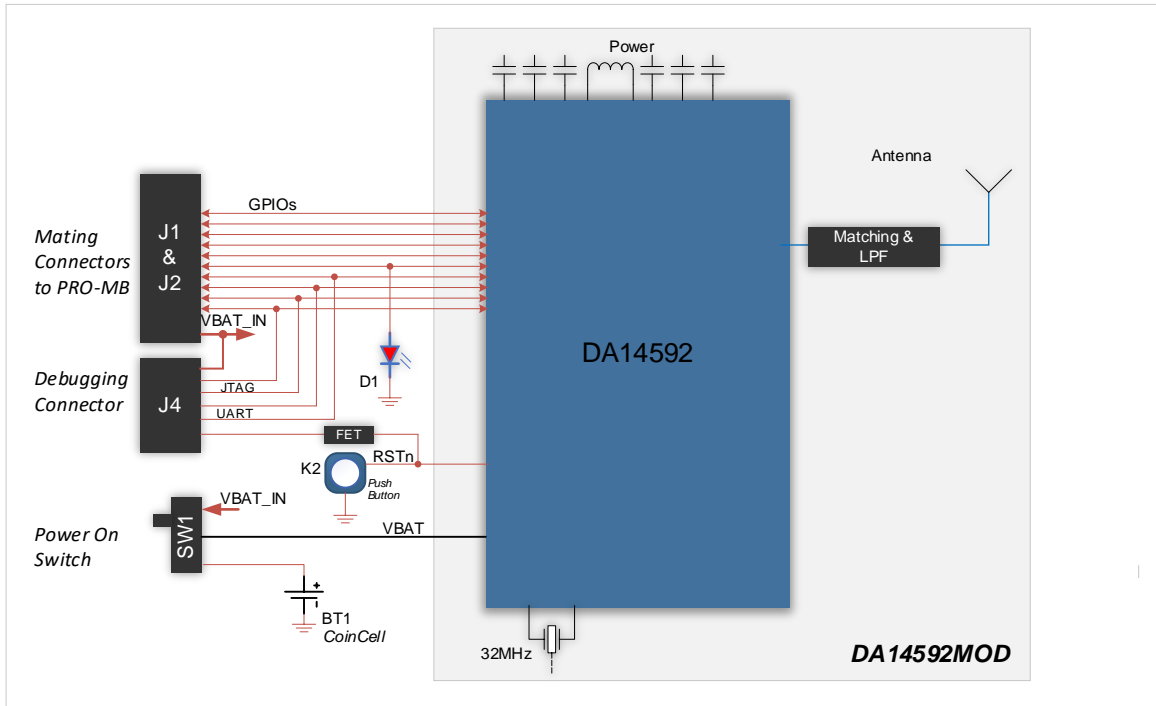
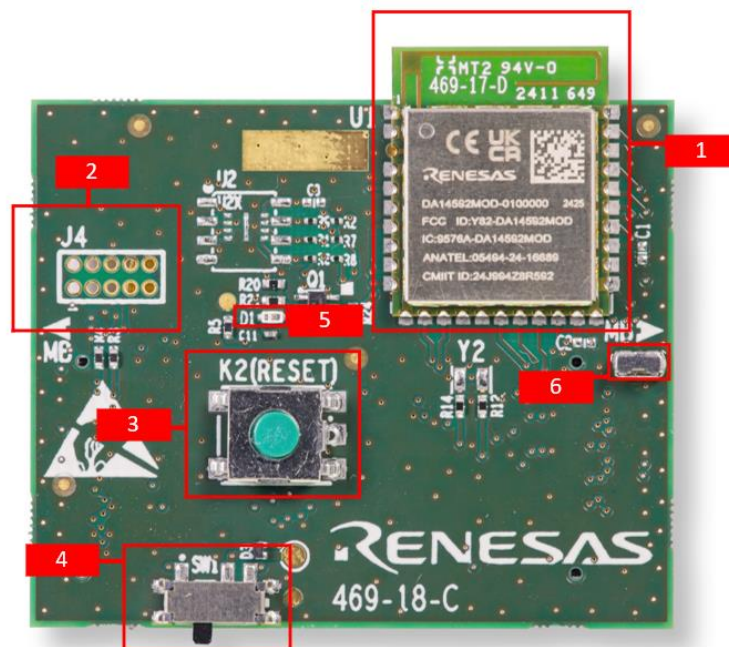
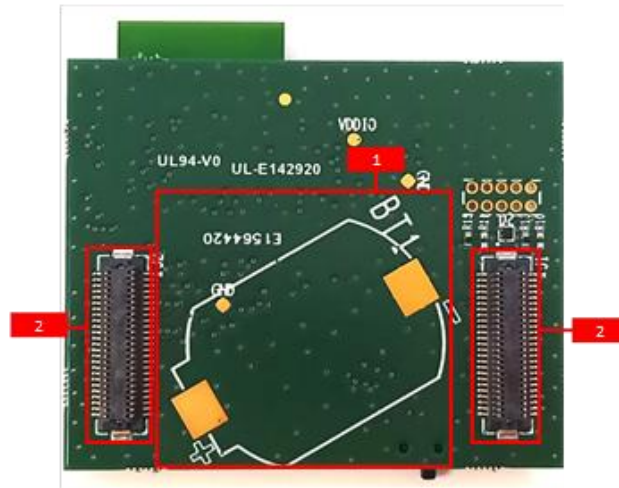

Figure 5. Block diagram of DA14592 SmartBond Module DB
Figure 6. Top side components of DA14592 SmartBond Module DB
Figure 7. Bottom side of DA14592 SmartBond Module DB
The system on DA14592 SmartBond Module Daughterboard (DB) consists of the DA14592 Module, the power section, the general-purpose LED, the Reset button, Power switch, the Debugging and Mating connectors. The system block diagram is shown in Figure 5, and the actual component's location in Figure 6 for top side and Figure 7 for bottom side of Daughterboard.